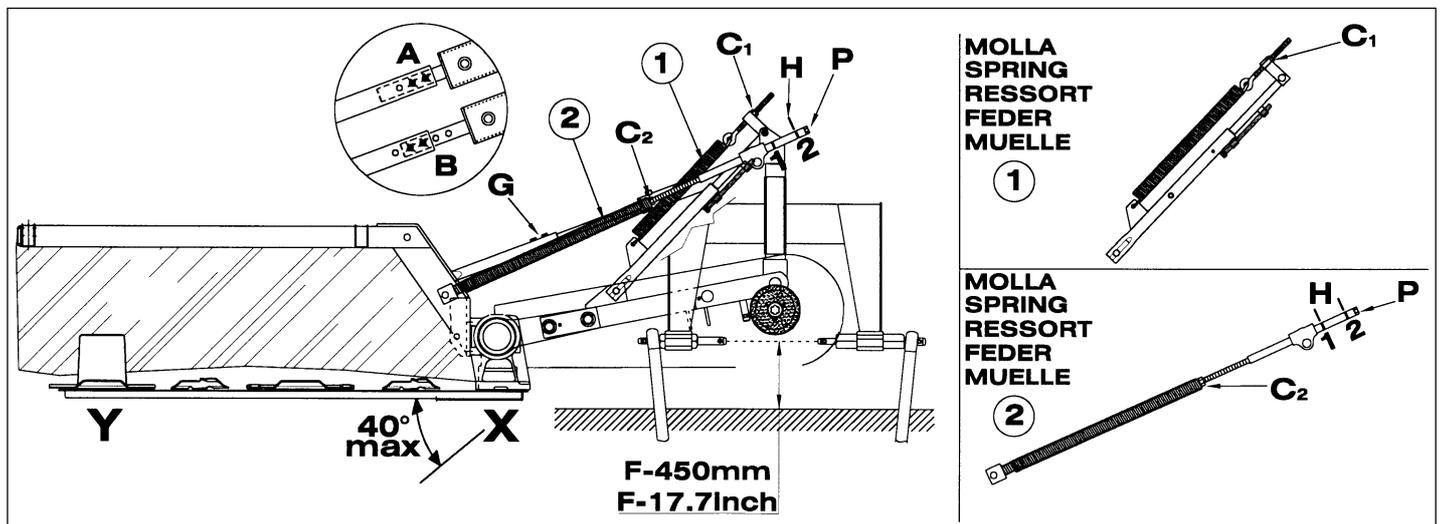

Fig. 12
Adjust spring 1 by means of check nut C1 to lighten the bar on the inner side (X). Adjust spring 2 by unscrewing check nut C2 and using rod P (remember to lock check nut C2 once the adjustments have been made) so as to lighten the bar on the outer side (Y) fig.12.
Proceed in the following way to **mow with the bar tilted downwards** (max. 40°) (fig. 12):